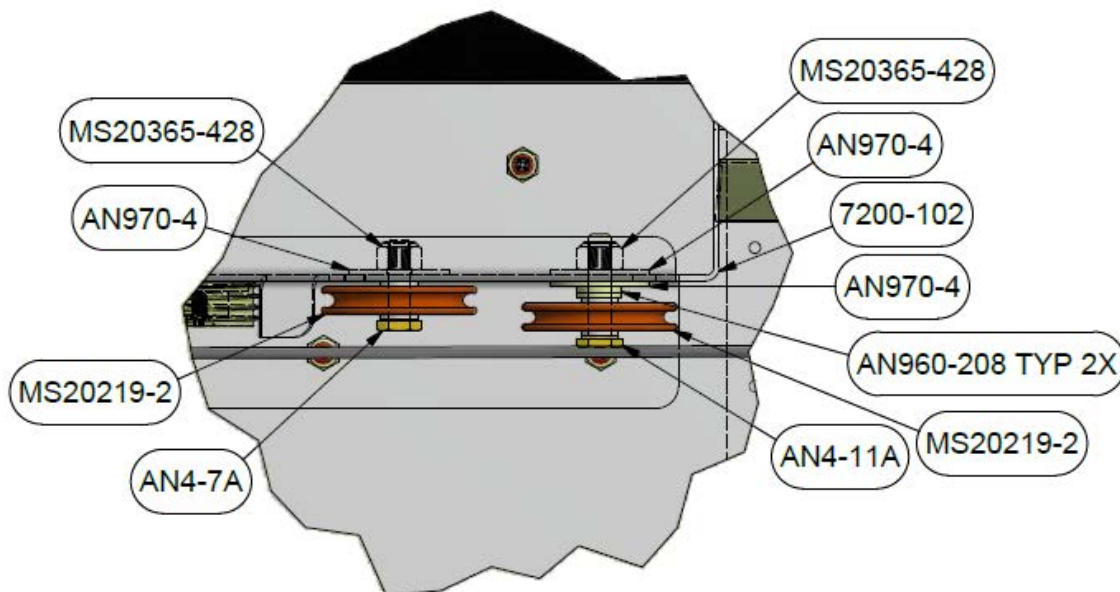

Figure 2-27
- 1.38.6. Attach the MS20219-2 pulleys to the circled holes in the roll bracket assembly (P/N 7200-102) as shown in Figure 2-27. Torque AN4 bolts to 50-70 in-lb.